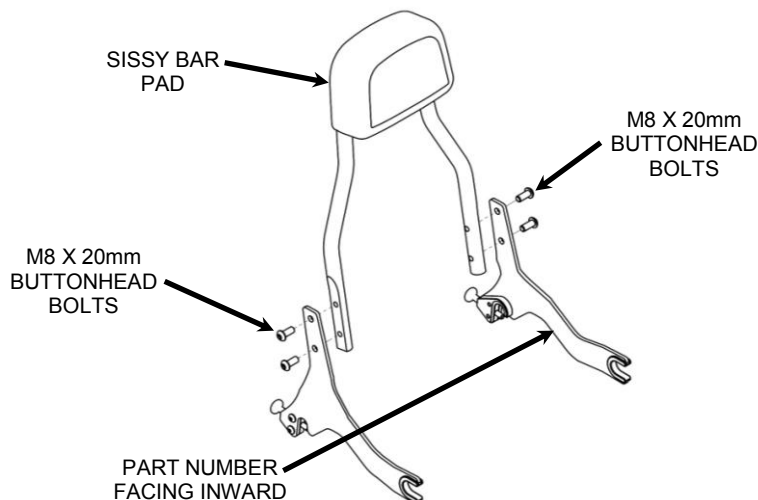

FIGURE 4
6. Install the supplied side plates on to the sissy bar with the four M8 X 20mm button head bolts. Make sure the u-shaped grommets are facing the same direction as the sissy bar pad and the part numbers are facing inward. See **FIGURE 4**. Snug the bolts but **DO NOT TIGHTEN** at this time.